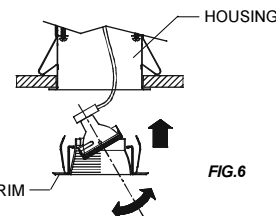

FIG.6
- Push the trim into the housing. (Fig.6)